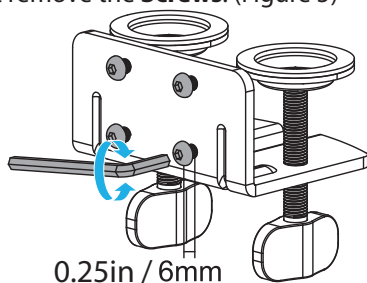

Figure 5
- Using the **4mm Hex Key**, loosen the **Screws** (x 4) on the back of the **Lower Desk Clamp** until there's **1/4 inch** (6mm) gap. Do not remove the **Screws**. (Figure 5)